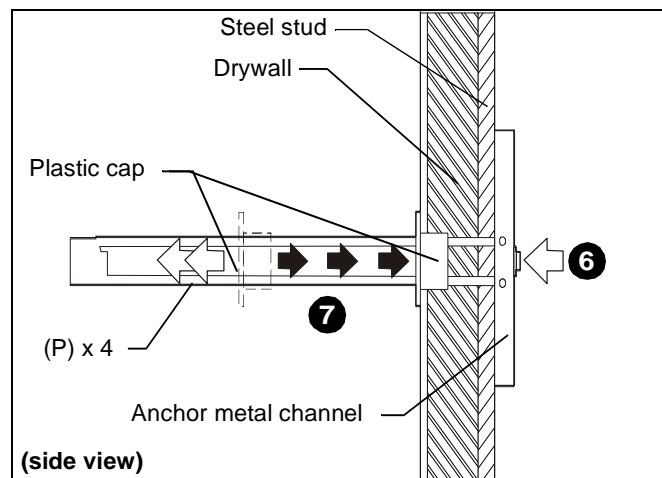

Figure 10
6. Holding plastic straps on anchor (P), pull anchor away from wall until channel rests flush behind wall making sure anchor channel is positioned vertically on stud. (See Figure 10)
7. Slide plastic cap on anchor (P) towards wall until flange of cap is flush with wall. (See Figure 10)